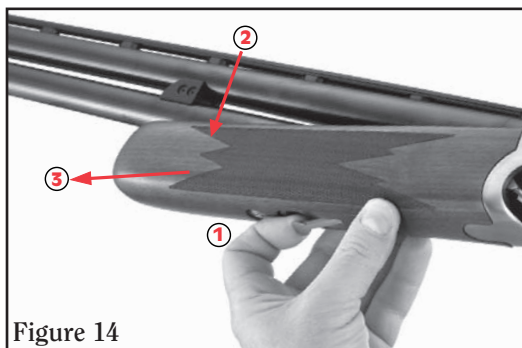

Figure 14
2. To separate the forend assembly from the barrel assembly (See Figure 14):